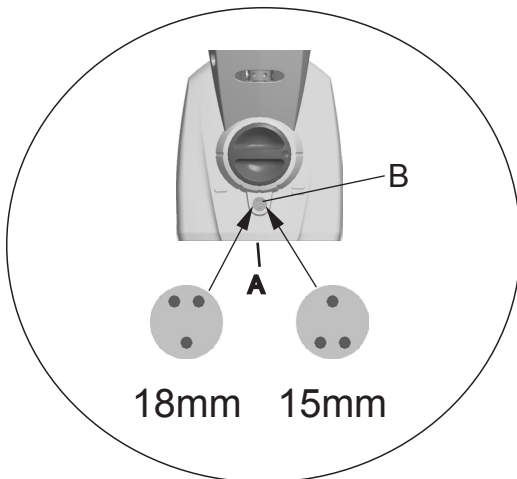

Fig. 4
- With a 2,5 mm Allen key, unscrew locking screw (A) two turns.
- With a screw driver, adjust screw (B) to 15 or 18 mm leg length (Fig. 4)